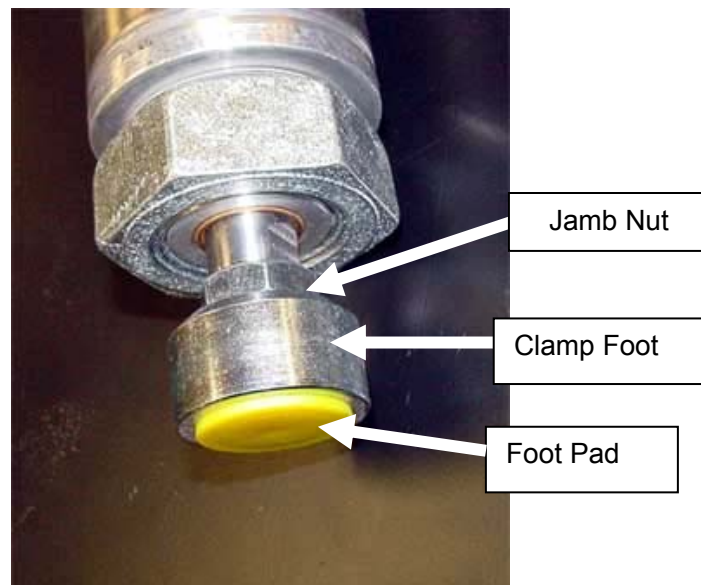

Fig 1
2. With the shaft fully extended, hold the shaft stationary with a ½" wrench and loosen the jamb nut with a ¾" wrench. Continue holding the shaft stationary with the ½" wrench and use large slip-joint pliers to turn the Clamp Foot and break it free of thread lock compound. **See Fig 1.**